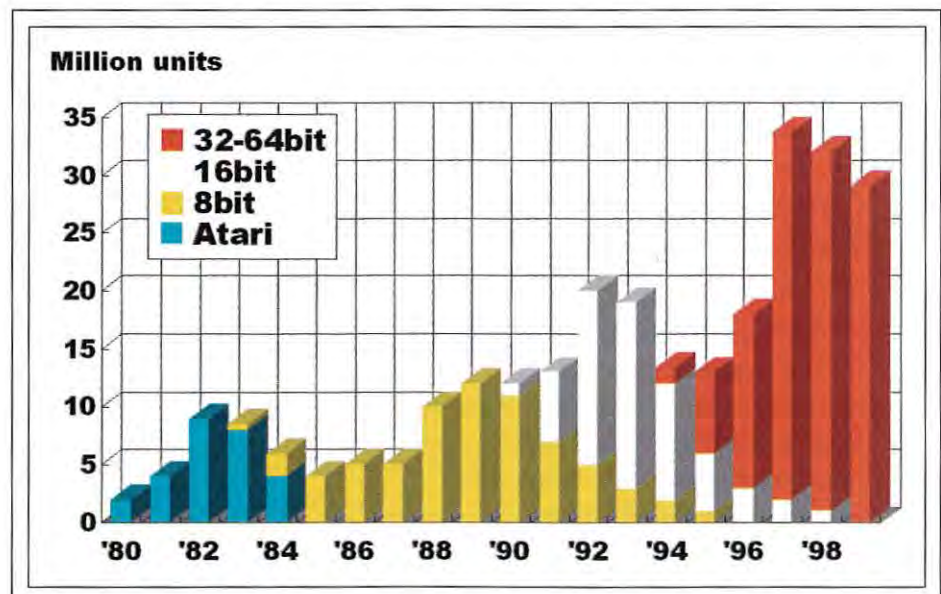

Fig. 1: Game-console platforms have a long life expectancy of 4–8 years.
The situation with game consoles is very different from that found in the personal-computer (PC) business. In their pursuit of hardware sales, PC makers repeatedly introduce machines with new specifications, but a game console will keep a single specification over its entire lifetime of 4–8 years (Fig. 1). In the game-console business, the pursuit of new